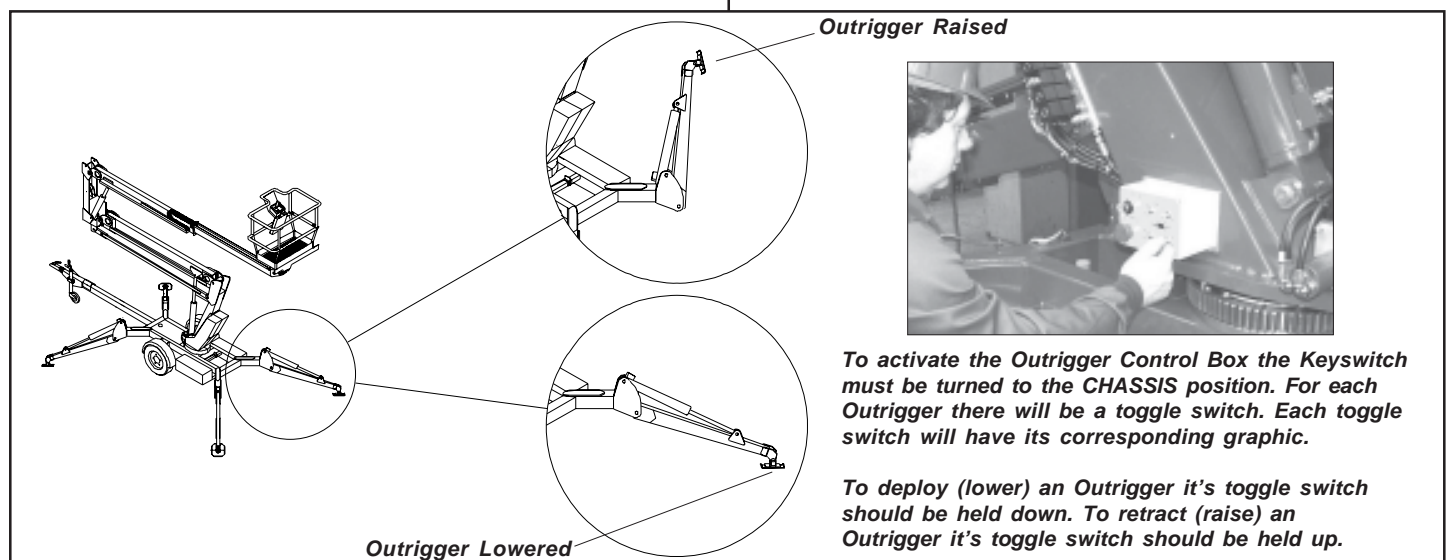

Figure 1: Deploying the Outriggers
surface (See Figure 1). Care should be exercised that the Foot Pads are orientated correctly. When all four Outriggers are in contact with the surface the Chassis can then be elevated. This should be done by extending each Outrigger one at a time in small increments until both of the Road Wheels have just cleared the ground.
2. Turn the Keyswitch located on the Outrigger Control Box to the ‘Chassis’ position and deploy the Outriggers using the Toggle Switches until the Outrigger Foot Pads come into contact with the surface. Care should be exercised that the Foot Pads are orientated correctly. Reference Figure 1.
The platform can be levelled from the Upper controls using the levelling switch (See Figure 1). To activate this switch the 'ON/OFF/OVERRIDE' switch, also located on the Upper Control Box, must be held to the **OVERRIDE** position.